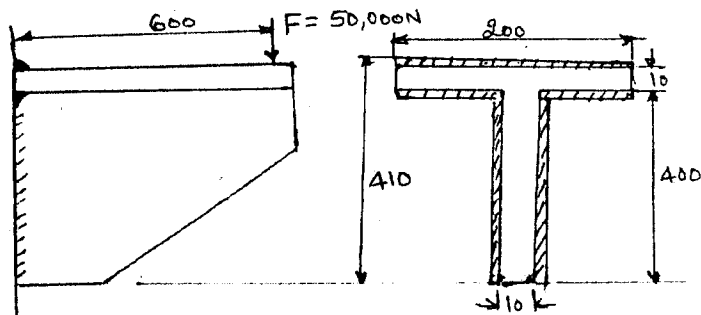

Fig.7(b)
- b. An eccentric loaded connection is as shown in Fig.7(b). Determine the size of weld, if maximum shear stress induced in weld is not exceed 75 N/mm^2 . (10 Marks)